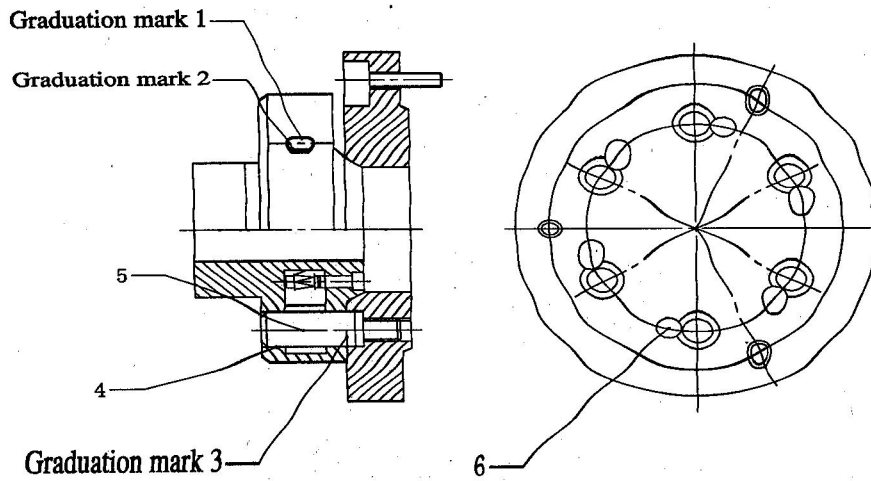

Fig. 11-11 Mounting of chuck or driving plate onto spindle
When mounting, align reference line 2 on cam (4) with reference line 1 on spindle nose; align reference line 3 on studs of chuck or driving plate with left face of chuck or driving plate; tighten them with screw (6). Insert six studs of chuck or driving plate into six holes in spindle nose and turn the six cams with the square key supplied till they are locked. See Fig. 11-11.